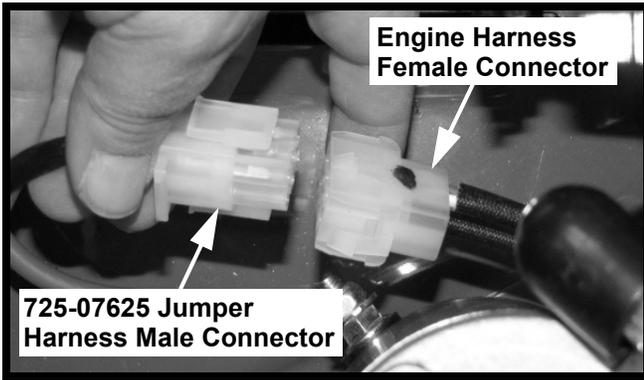

FIGURE 3
5. Connect the male connector with the locking tabs of the **725-07625** jumper harness to the engine harness female connector. See Figure 3.